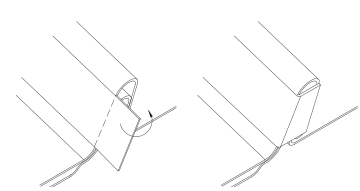

FIGURE 2.
4. Align the second panel female edge with the starter panel male edge. See Figure 2. Panels must be flush to one another. Remember, panels should extend over eave trim by 1 1/2".
6. Seal end thoroughly as in Figure 1, or leave tab when notching and fold over end for a more finished look as in Figure 2.